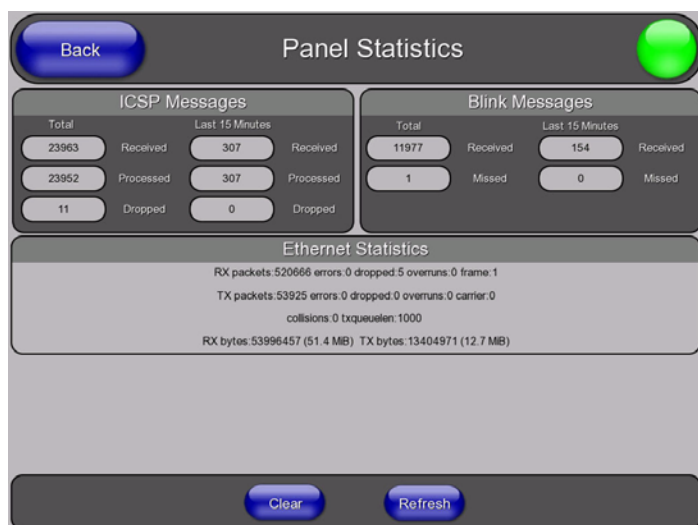

FIG. 76 Protected Setup (Tools) - Panel Statistics Page
- **Panel Statistics** - Press to access the *Panel Statistics* page (FIG. 76 on page 73)
Select **Panel Statistics** from the *Tools* slider (see FIG. 74) to access the *Panel Statistics Page* (FIG. 76):